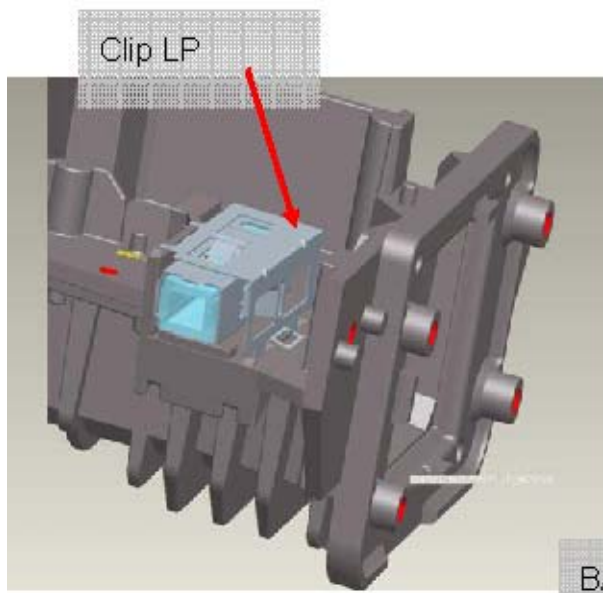

Figure 4-7
- iv. Assembly “Clip_LP” first (Figure 4-7)and make sure it hooks HSG DMD well